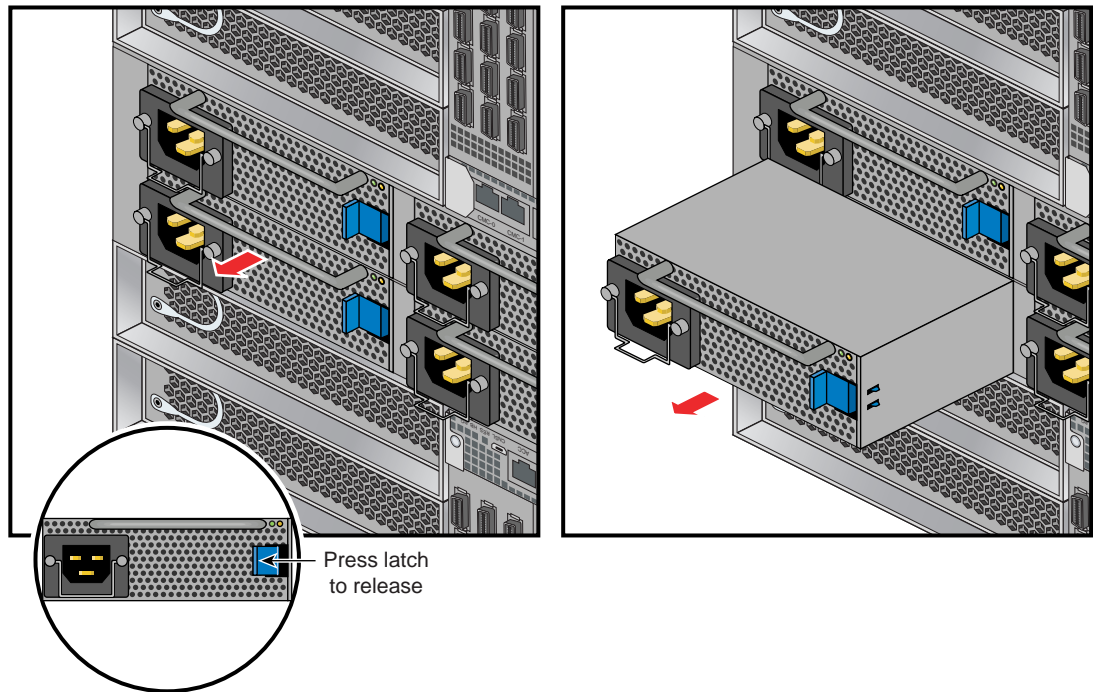

Figure 7-1 Removing an Enclosure Power Supply
3. Press the retention latch of the power supply toward the power connector to release the supply from the enclosure, see Figure 7-1 on page 88.